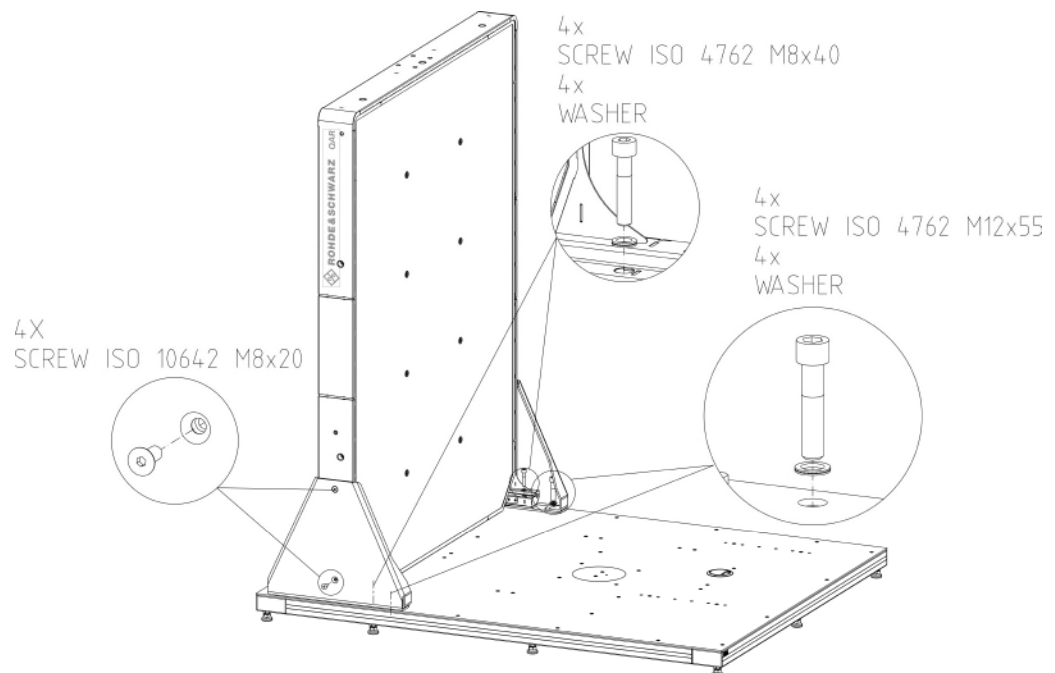

Figure 4-5: R&S QAR installation, including support mounting
1. Screw the two supports to the R&S QAR with two socket head screws (size 5) on each side of the R&S QAR (see Figure 4-5).
Note: Insert a washer between screw and support as shown in Figure 4-5.